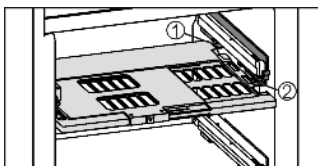

Fig. 5
- ▶ To insert the humidity control plate: Insert the guide pieces of the plate into the rear retainer Fig. 5 (1) from below, then snap the plate into the retainer Fig. 5 (2) in the front.